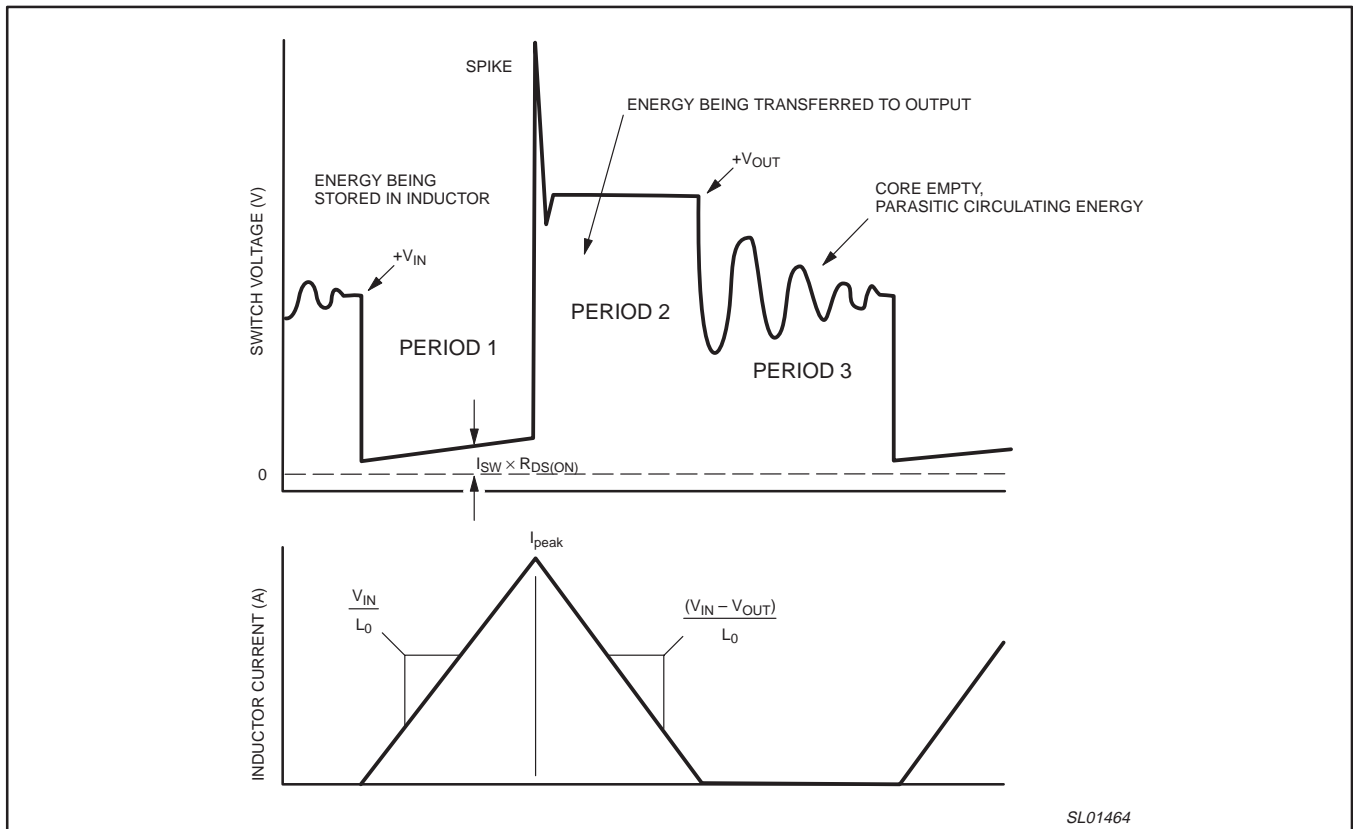

Figure 20. Boost converter waveforms (discontinuous mode).
To understand the boost converter's operation, examine its three periods of operation. These periods are: the power switch on-time (period 1); the inductor discharge period (period 2); and the inductor empty state (period 3). These periods and their associated currents can be seen in Figure 20.
**DISCONTINUOUS MODE**—This period as displayed in Figure 20 occurs in the discontinuous-mode of operation of a boost converter. It is identified by a period of "ringing" following the output period (period 2). The inductor has been completely emptied of its stored energy and the switched node returns to the level of the input voltage. Ringing is seen at this node because a resonant circuit is formed by the inductance of  $L_0$  and any parasitic inductances and capacitances connected to that node. This ringing has very little energy and can easily be eliminated by a small passive snubber.
The input and output capacitors experience the current waveforms seen in Figures 20 and 21. The peak currents can be typically between 3 to 6 times the average currents flowing into the input and from the output. This makes the choice of capacitor an issue of how much ripple voltage can be tolerated on the capacitor's terminals and how much heating the capacitor can tolerate. At the power levels produced by the SA57255-XX heating is not a major issue.